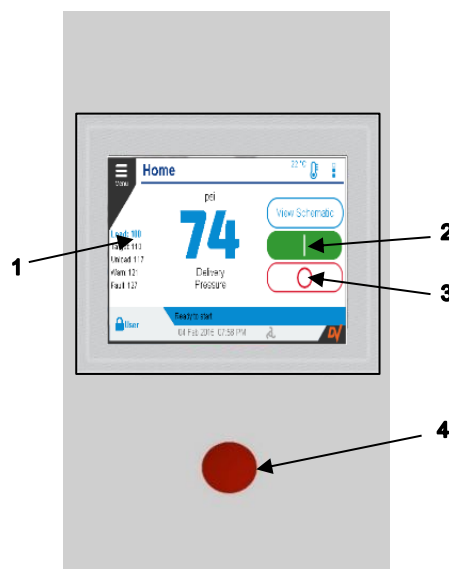

Figure 5-4 Controller display
For switching the compressor off “normally”, use only the stop push-button (-3- Fig.5-4), but not the EMERGENCY STOP push-button. After having been switched off, the compressor is after-cooled for 30 seconds (soft stop).
Press start button < I > (-2- Fig. 5-4) on the control panel.
Press stop button < O > (-3- Fig. 5-4) on the control panel, not the Emergency Stop button (-4- Fig. 5-4).
The emergency stop button (-4- Fig. 5-4) is located below the compressor controller. It is used to immediately shut down the unit. Only use the Emergency Stop button to shut down the unit in emergencies.
- Press START button [I] (-2- Fig. 5-4).
- To switch off the compressor in the usual way use the STOP button (-3- Fig. 5-4) and not the emergency STOP button (-4- Fig. 5-4). After shutdown the compressor has a run on time of 30-50 seconds (soft-stop). The time remaining is counted down on the display.